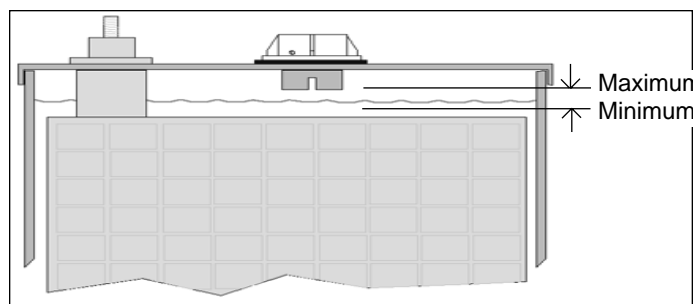

Figure 19 - Battery Electrolyte Level
- e. After charging, check electrolyte level and add water as necessary to triangle or split ring of each cell. See Figure 19.